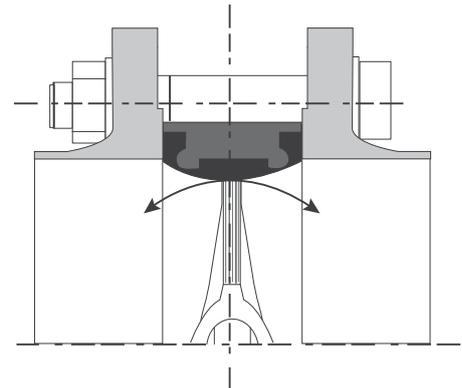

Figure 2: Incorrect installation
- Poor sealing between seat (liner) and butterfly disc (see chapter 10.1, figure 2).